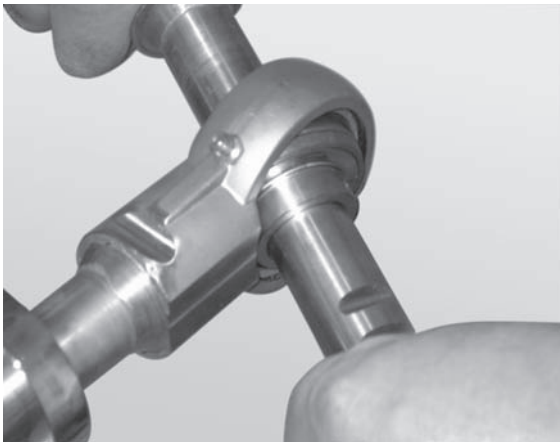

Figure 75
2. Insert the rod end of a second bearing shaft through the bearing (**Figure 75**).